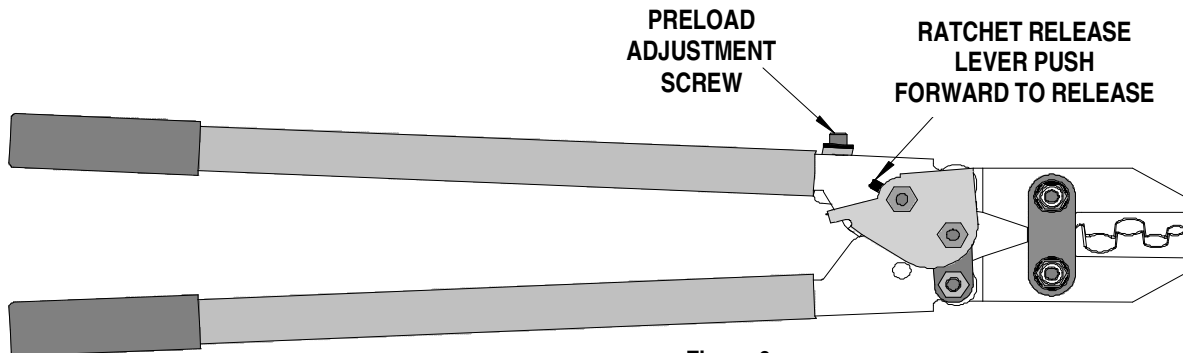

Figure 6
3. Make certain all pins; pivot points and bearing surfaces are protected with a thin coat of high quality machine oil. Do not oil excessively. This hand tool was engineered for durability, but like any fine piece of equipment, it needs cleaning and lubrication for a maximum service life of trouble-free crimping. A light oil, such as 30 weight automotive oil used at the oil points shown in Figure 6, every 5,000 crimps or 3 months will significantly enhance the tool life and ensure a stable calibration.
Should this tool ever become stuck or jammed in a partially closed position, **Do Not force the handles open or closed.** The tool will open easily by pushing the ratchet release lever forward. See Figure 6.
How to Adjust Tool Preload (See Figure 6 and 7)